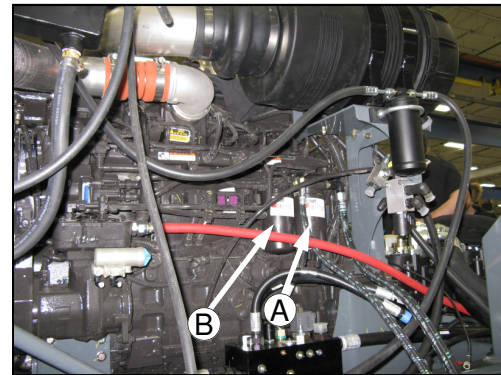

FIG 91-3
**PRE- FUEL FILTER**- (fig. 91-3, item A) Located on the right side of the engine, this filter should be replaced every 500 hours or once a year, whichever comes first.
**MAIN FUEL FILTER (WATER SEPARATOR)**- (fig. 91-3, item B) Located on the right side of the engine, this filter should be drained daily of the water and other deposits. Replace the filter every 500 hours or as necessary.